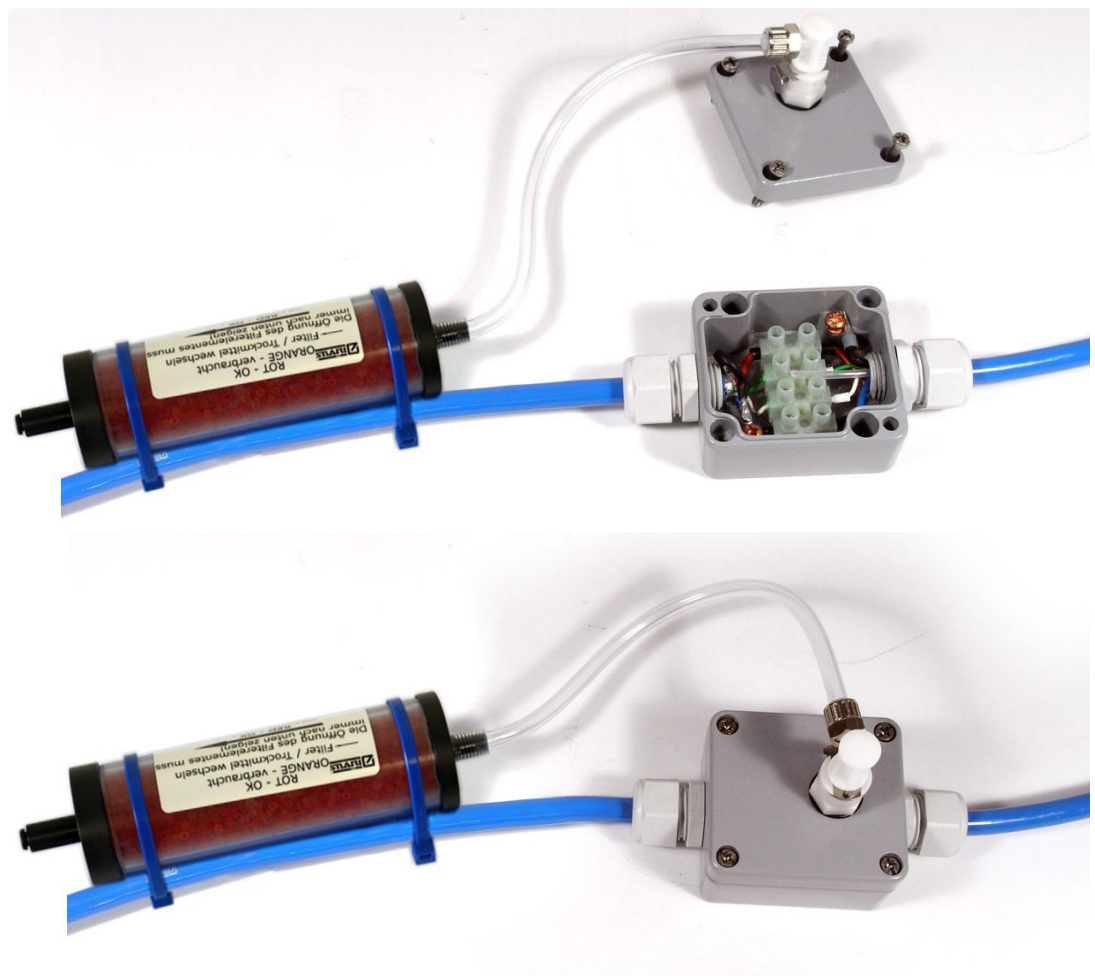

Fig. 25-4 Ready mounted pressure compensation element
3. Attach the air filter to one of the two cables with the two cable ties supplied so that the filter cover points downwards (Fig. 25-4).